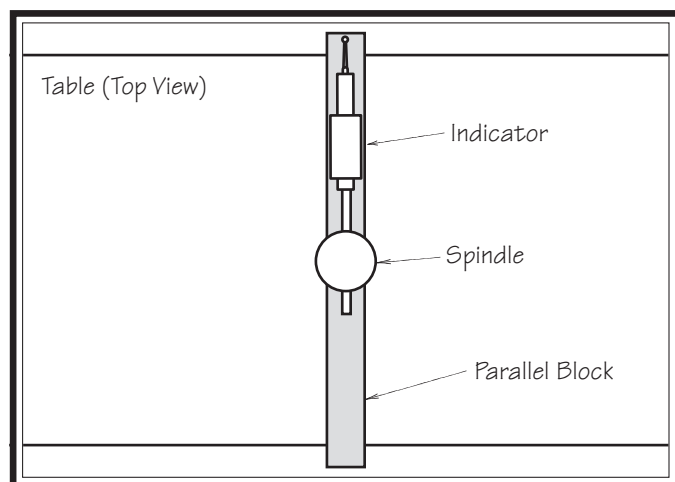

Figure 85. Parallel block positioned for the Y-axis measurement (top view).
9. Place parallel block directly under spindle and across width of table, as illustrated in **Figure 85**.
10. Rotate spindle so indicator point rests on parallel bar, as illustrated in **Figure 85**, then zero dial.